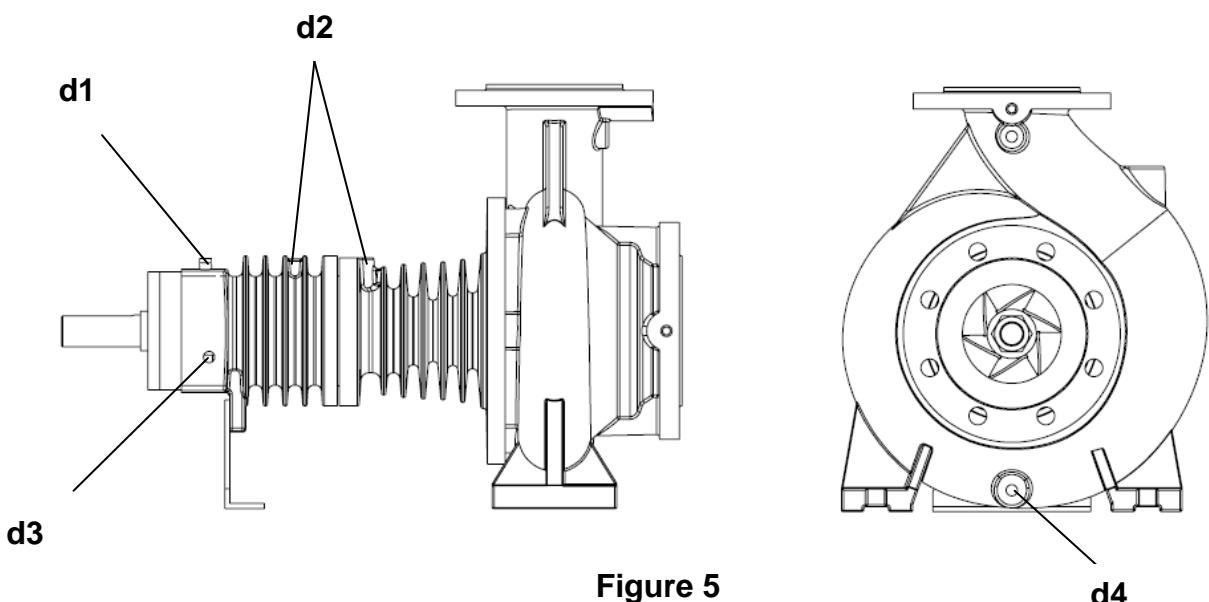

Figure 5
- There are connection places in every pump for discharging pump and removing leakages in seal bed. (**Fig. 5**) Those connections can be connected to discharge tank by means of pipes if requested. There should be isolation valve in pipe which is used for pump discharging and this valve and pipe should be suitable with maximum operational pressure of pump.